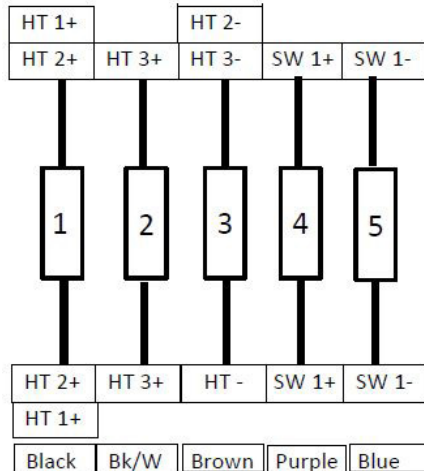

Figure 10 - Wiring Connections Inside VFD
- Connect and label all wires similar to Figure 10.